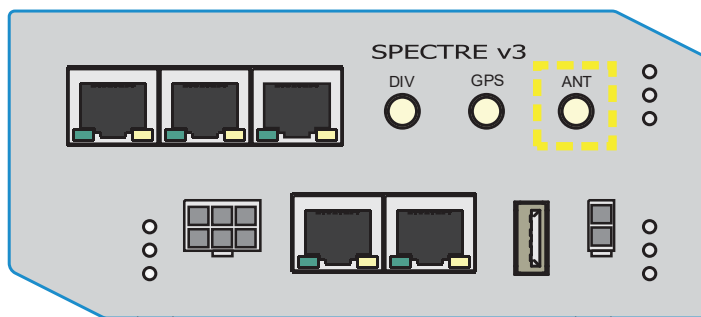

Fig. 22 Antenna socket (marked yellow) on the router's front side
8. Connect the plug of the antenna cable to the socket marked ANT (yellow frame in Fig. 22 below) on the router.